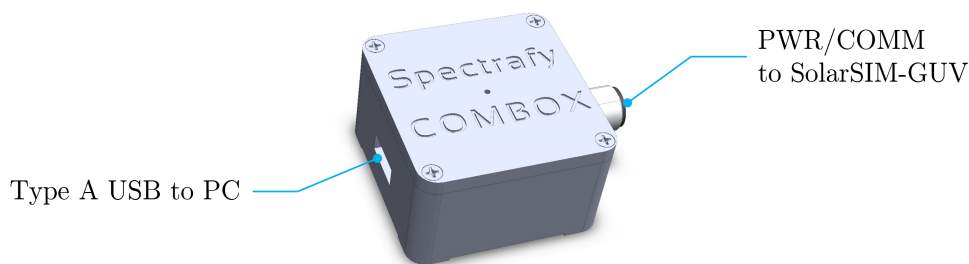

Figure 4: The COMBOX interfaces the SolarSIM-GUV to a PC.
Option 1 uses the SolarSIM Communication Box (COMBOX) - a seamless link between a PC and the SolarSIM-GUV, as shown in Figure 4. A standard 6 ft USB cable is connected from the COMBOX to a PC. On the other side, a 10 m RS-485 communication cable is connected from the COMBOX to the SolarSIM-GUV. This option is ideal for test sites and locations where one has the access to a personal computer (PC) or when quick, in-field spectral measurements are necessary with a laptop.